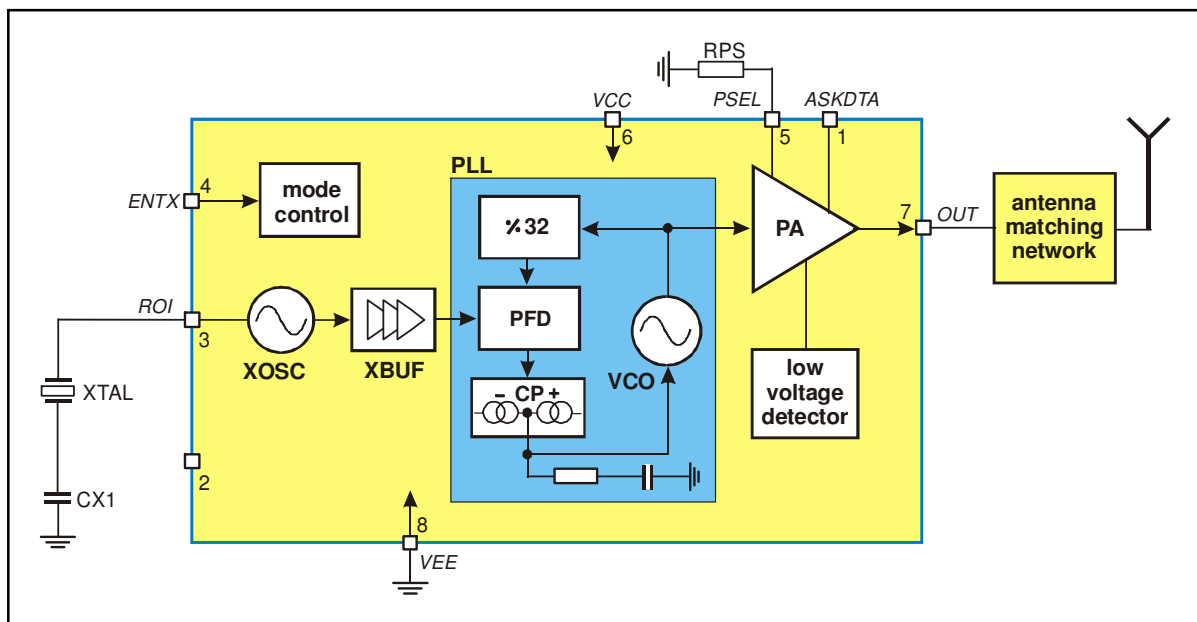

Fig. 1: Block diagram with external components
As depicted in Fig.1, the TH72032 transmitter consists of a fully integrated voltage-controlled oscillator (VCO), a divide-by-32 divider (div32), a phase-frequency detector (PFD) and a charge pump (CP). An internal loop filter determines the dynamic behavior of the PLL and suppresses reference spurious signals. A Colpitts crystal oscillator (XOSC) is used as the reference oscillator of a phase-locked loop (PLL) synthesizer. The VCO's output signal feeds the power amplifier (PA). The RF signal power  $P_{out}$  can be adjusted in four steps from  $P_{out} = -12$  dBm to +9.5 dBm, either by changing the value of resistor RPS or by varying the voltage  $V_{PS}$  at pin PSEL. The open-collector output (OUT) can be used either to directly drive a loop antenna or to be matched to a 50Ohm load. Bandgap biasing ensures stable operation of the IC at a power supply range of 1.95 V to 5.5 V.